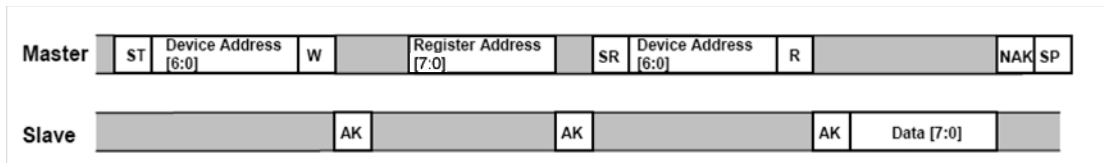

Figure 6. Single Byte Read - The Master is reading one address from the MMA7455L
The MMA7455L has a 10-bit ADC that can sample, convert and return sensor data on request. The transmission of an 8-bit command begins on the falling edge of SCL. After the eight clock cycles are used to send the command, note that the data returned is sent with the MSB first once the data is received. Figure 6 shows the timing diagram for the accelerometer 8-bit I2C read operation. The Master (or MCU) transmits a start condition (ST) to the MMA7455L, slave address (\$1D), with the R/W bit set to "0" for a write, and the MMA7455L sends an acknowledgement. Then the Master (or MCU) transmits the 10-bit address of the register to read and the MMA7455L sends an acknowledgement. The Master (or MCU) transmits a repeated start condition (SR) and then addresses the MMA7455L (\$1D) with the R/W bit set to "1" for a read from the previously selected register. The Slave then acknowledges and transmits the data from the requested register. The Master does not acknowledge (NAK) it received the transmitted data, but transmits a stop condition to end the data transfer.